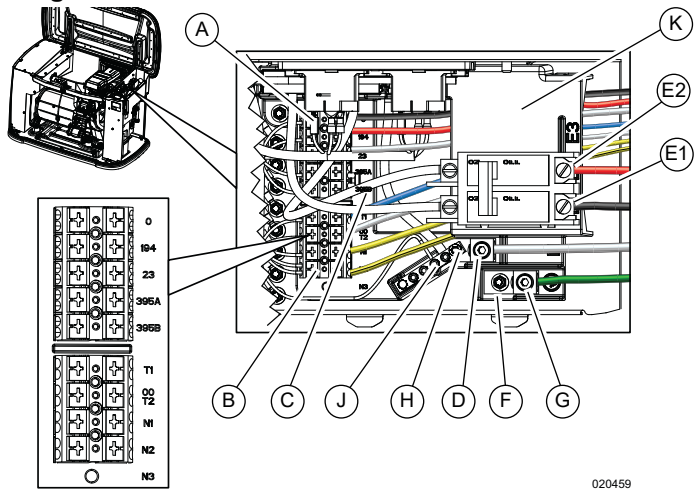

Figure 6-1. Electrical Wiring Connections
See Figure 6-1. The electrical wiring enclosure is located behind an access panel on intake end of unit. Remove intake side panel as directed in Intake Side Panel Removal, and then remove access panel. Connect wires according to diagram and tables. Remove terminal block jumper (C) when a remote switch is installed.
1. See Figure 6-1. Strip insulation from wire ends. Do not remove excessive insulation. Route sense wires under customer connection block (K), and connect to sense wire terminal block (B). Push down on spring loaded connection point with a flat head screwdriver, insert wire, and release.
2. Using the same process, route control wires under customer connection block, and connect to control wire terminal block (A).
2. See Figure 6-1. Loosen lugs at neutral (D), ground (G), and power wire (mains) terminals (E1, E2).
See Figure 6-1. Connect a suitably sized system bonding jumper in accordance with NEC Table 250.102(C)(1) from neutral bar (J) to ground stud (F). Tighten ground stud nut to 35 **in-lbs** (3.95 Nm). This is required when generator is installed as a separately derived system. Generator will also require a connection to a grounding electrode system in accordance with NEC Article 250.64. It is not required when generator is a backup source in a utility supplied electrical system with a 2-pole transfer switch. Installation must be made in accordance with NEC Articles 250.30 and 250.35(A) if generator will be installed as a separately derived system.